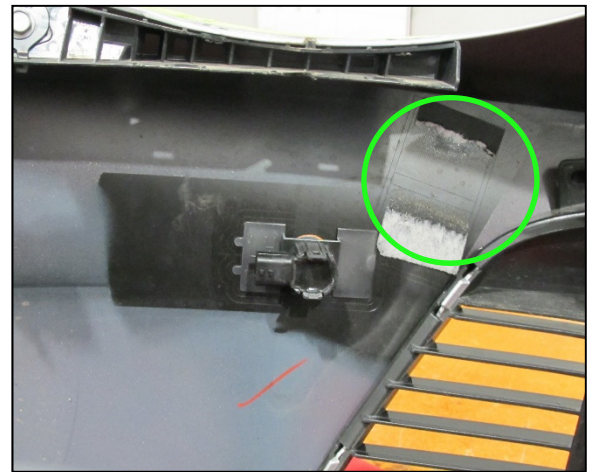
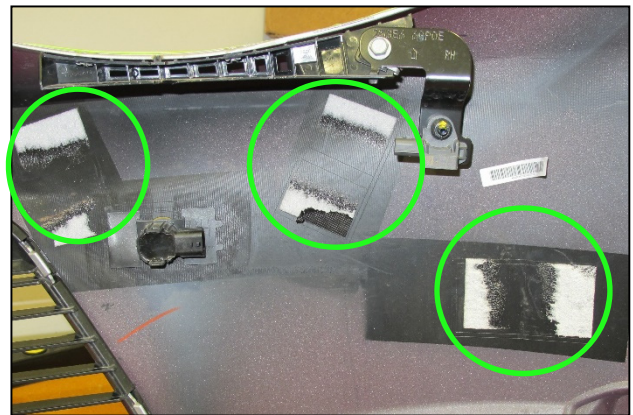

Figure 32
Figure 33
24. Remove any leftover protective tape cover or residue in the areas shown in Figure 32 and Figure 33 using a suitable brake cleaner and a clean shop towel.